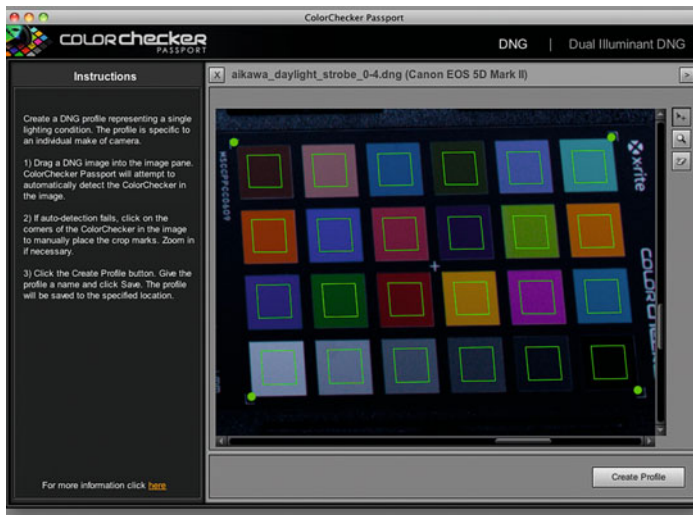

FIGURE 5.23 X-Rite ColorChecker Passport software for building custom DNG profiles for camera and light source combinations.
4. Launch the free *ColorChecker Passport software*, shown in Figure 5.23.